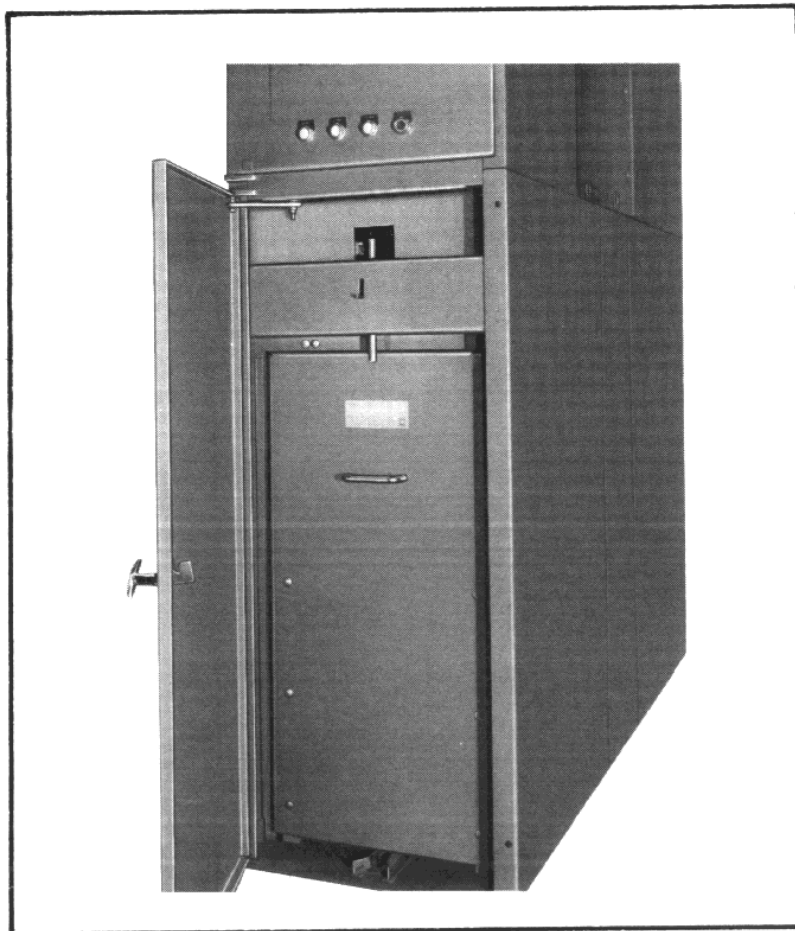

Figure 1-12.
1.2.8 Control Power Transformers (Figure 1-12 & 1-13)